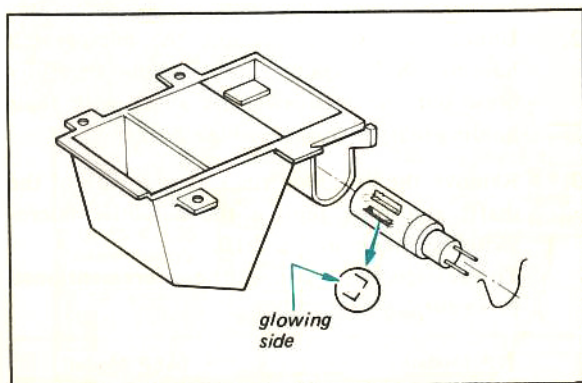

Fig. 2-11. Strobe lamp removal and installation
3. Unhook the retaining spring from the lamp cover and then apply a drop of cement solvent to the lamp. Wait a few seconds, and then push out the defective lamp as shown in Fig. 2-11.
4. Install a new strobe lamp. Take care that the glowing side (front) of the lamp is positioned as shown in Fig. 2-11